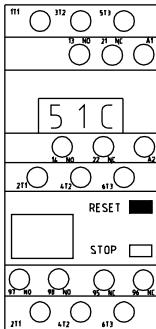

Figure 25
- 1 ` Please refer to figure 19,20,21 to find the 51C thermostat to press "RESET" button, to restart the cooler. (See Figure 25)